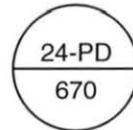

Figure 80. Instrument Tag
6. Identify the loop and area the device is in using the instrument tag in figure 80.